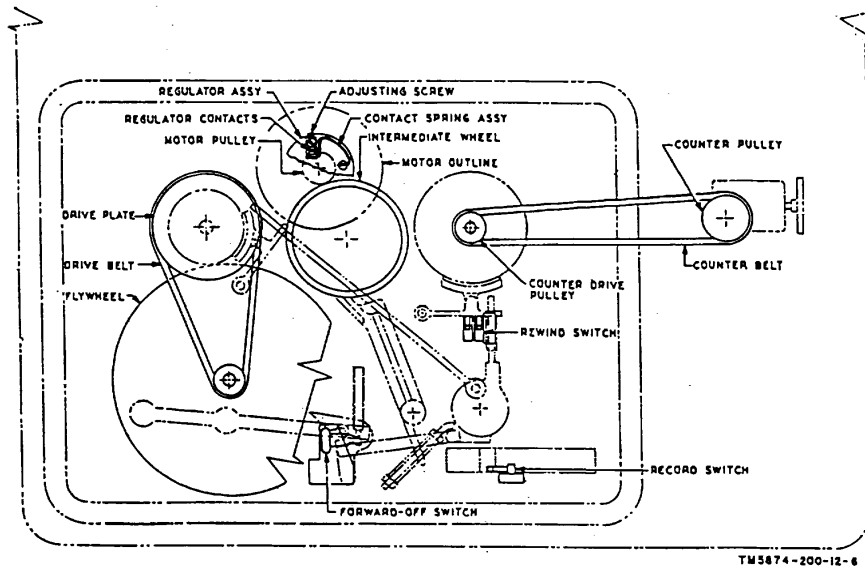

Figure 7. Drive and counter drive belts location diagram.
b. Remove the defective belt (fig. 7); the belt slips easily from the wheels.